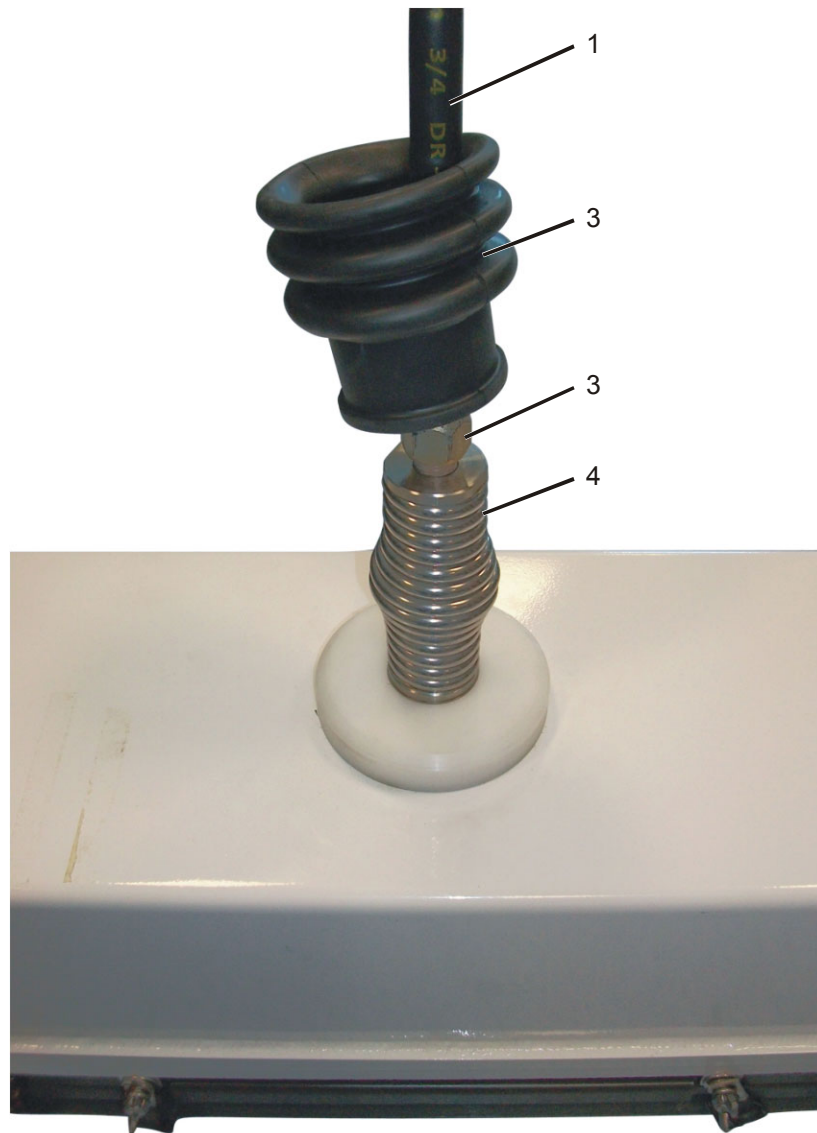

Figure 2-9. Antenna Installation 2
- b. Pull up the antenna cover (2).
- c. Insert one end of the antenna (1) on the spring (4) and tighten the locking nut (3) (see Figure 2-9).